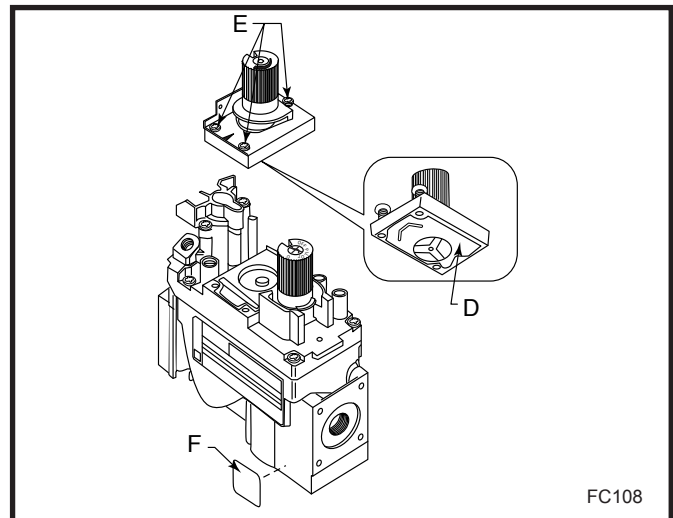

Fig. 60 Replace regulator.
bly to the valve using the new screws (E) supplied with the kit. Tighten the screws securely. (Ref. torque = 25 in/lb) (Fig. 60)
3. Install the enclosed conversion label (F) to the valve body where it can easily be seen. (Fig. 60)